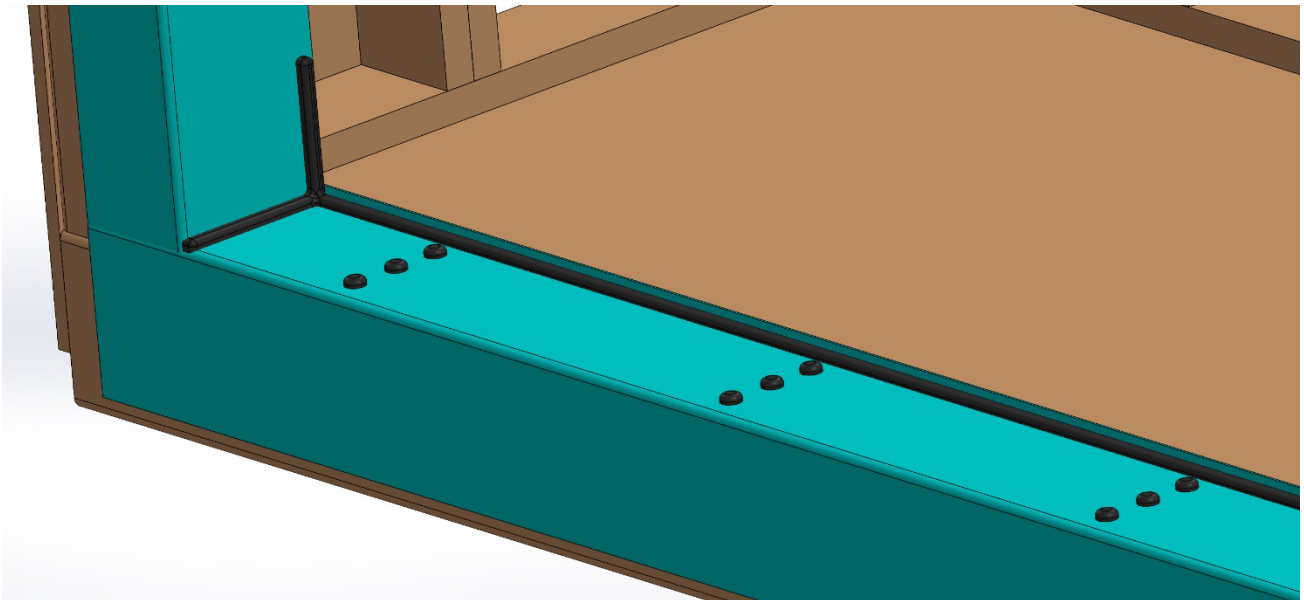

Figure 10
17. Set the sill assembly onto the bed of sealant and align the sill with marks on the floor. Shim the sill assembly as required and secure the frame with adequate anchor screws for your application. Shims to be spaced no more than 6" apart. Once the sill is anchored to the floor, verify that it is 100% flat and level in all directions. After verification, tool silicone over the heads of all anchor screws and smooth until flush. Fill the space between each track with flooring/finish materials to conceal the anchor screws and create a flat surface for the panels to seal against. (See Figure 10).